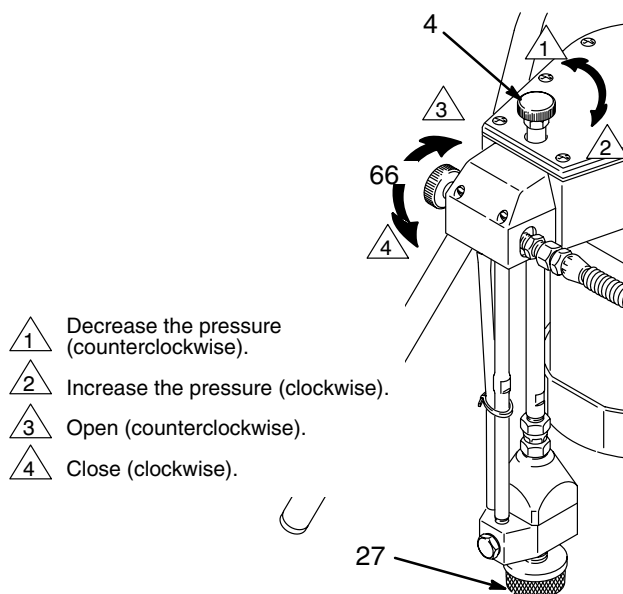
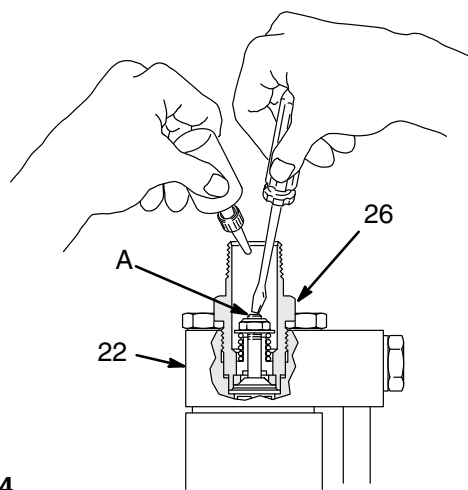

Fig. 3
Fig. 4
1. Open the bypass valve (66) ONE turn **counterclockwise**. Do not place the pump intake in the pail yet. See Fig. 3.
2. Turn the pressure control fully (4) **clockwise** to increase the pressure. See Fig. 3.
3. Remove the inlet strainer (27) and place your hand over the inlet valve to be sure it is drawing a vacuum.
**NOTE:** If the inlet valve (26) is not drawing a vacuum, turn the sprayer OFF. Turn the sprayer over. Press down on the stem (A) inside the inlet valve lightly with a small screwdriver, and pour about a teaspoon of mineral spirits or solvent into the valve. See Fig. 4. Release the valve and turn the sprayer upright. With the pressure turned up, turn on the sprayer. This should free any sticking parts in the pump. Now check again for a vacuum. Shut off the sprayer and install the inlet strainer (27).
5. Turn the sprayer ON and allow the paint to circulate through the bypass valve (4) for one or two minutes.
6. Turn the bypass valve (66) **clockwise** (finger tight) to close it; this allows the pump to build up pressure.